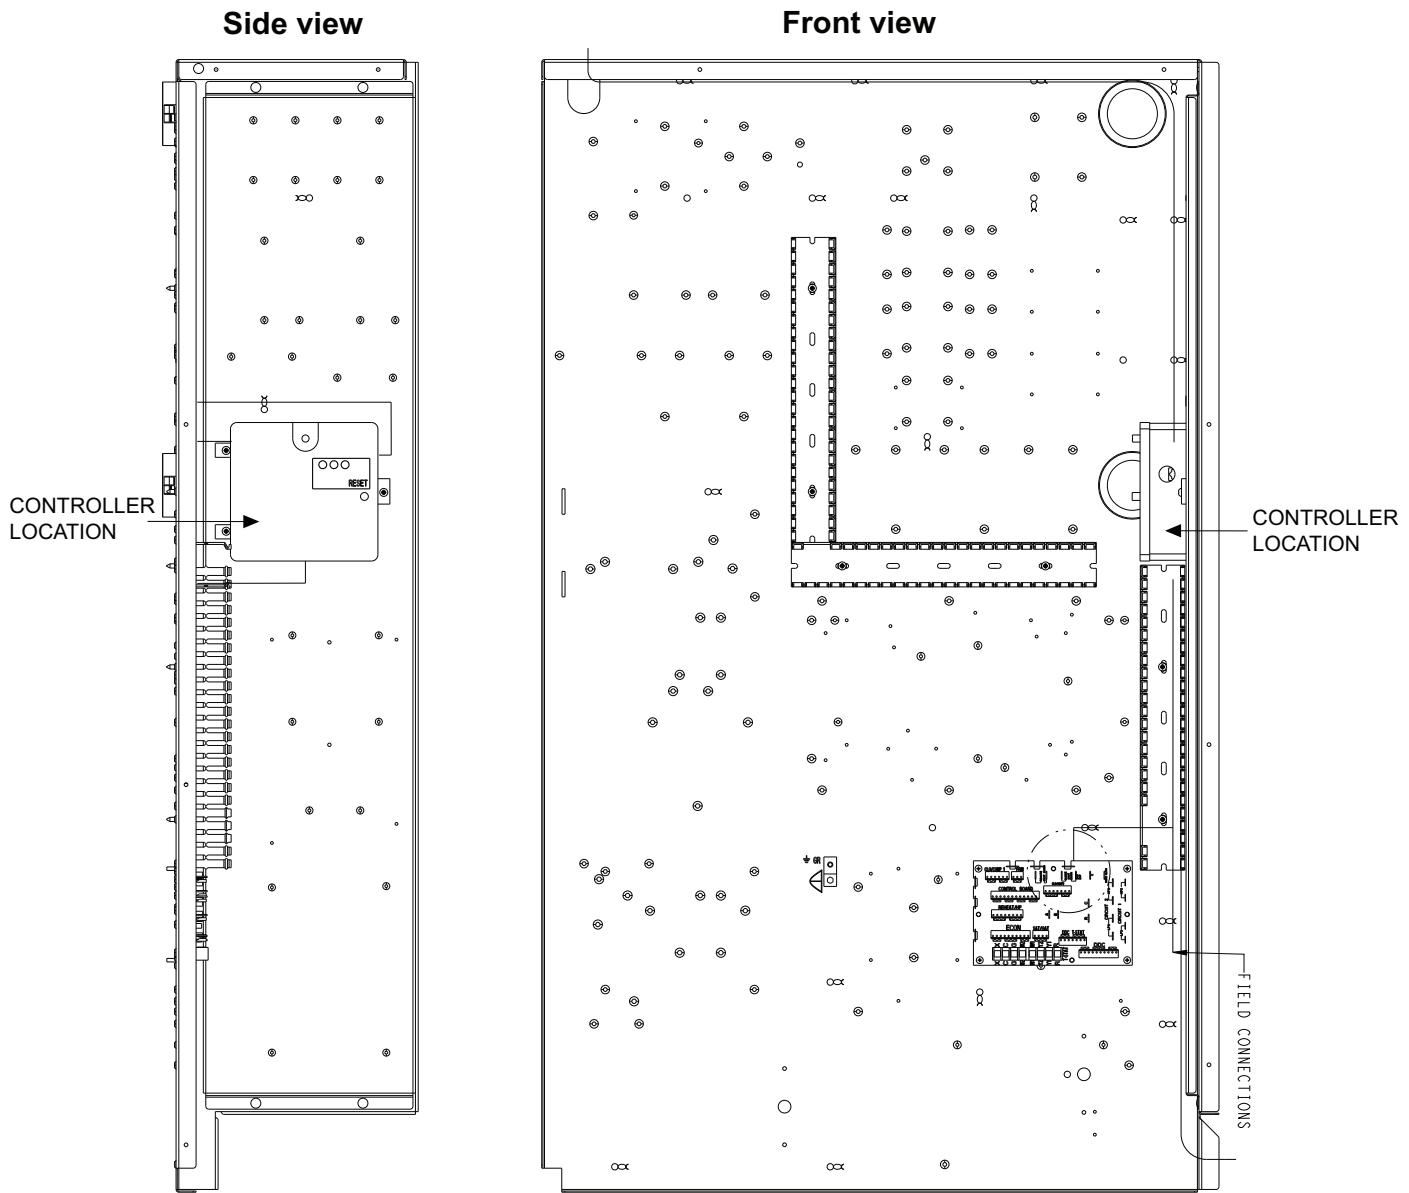

Fig. 6 — Return Smoke Sensor
6. Using two #8 screws, mount assembly into pre-drilled holes located next to central terminal board oriented as shown in diagram (see Fig. 6).